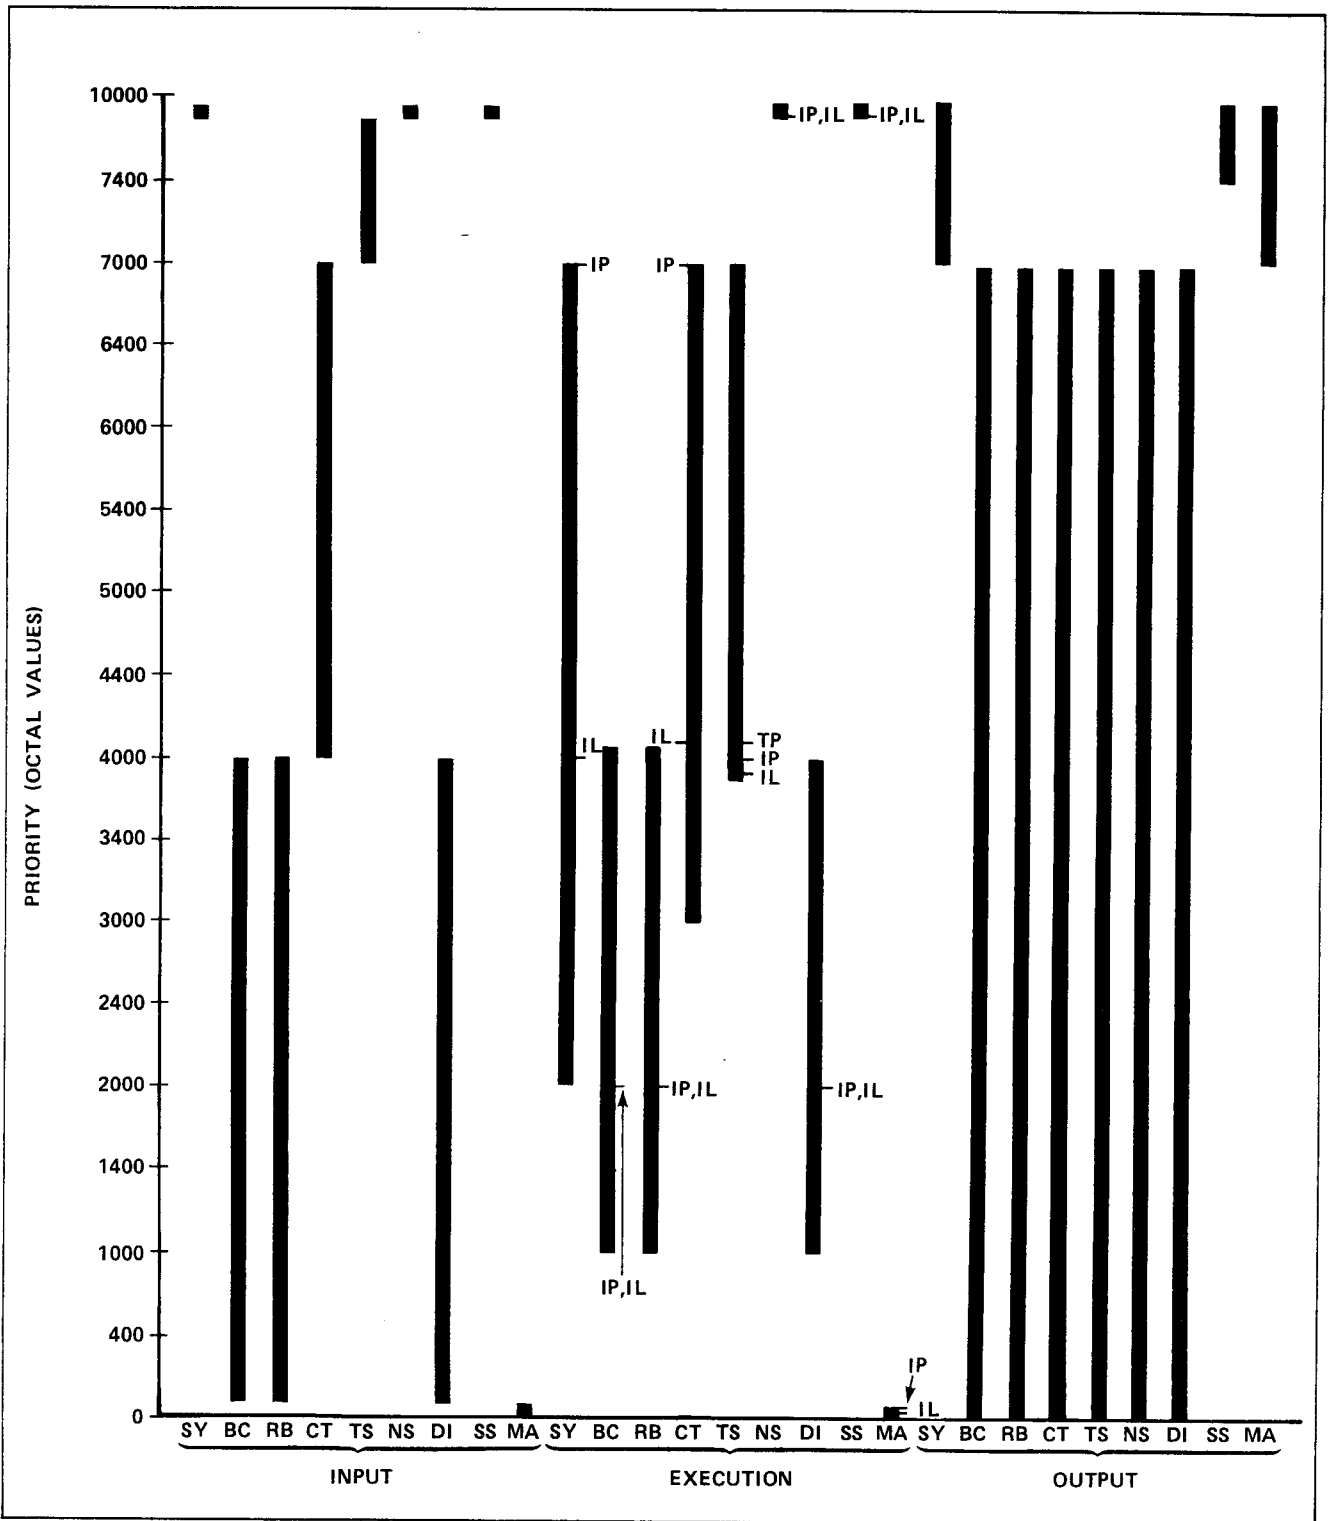

Figure 9-1. Example of Ranges of Service Class Priorities
For the interactive service class, there is an additional execution queue priority, TP (a parameter on the SERVICE entry). It is assigned to the execution queue entry of a job restarting after terminal I/O. The value of TP aids response time to program prompts. Also, for the interactive service class, the initial priority (IP) has an added significance. In addition to being the priority at which jobs are scheduled from the input queue to the execution queue, IP is the priority assigned to each newly initiated interactive job step. Using separate TP and IP parameters allows the system to give faster responses to users interacting with a job. To achieve this, a value for the TP parameter slightly greater than the value for the IP parameter is recommended (refer to table 9-1 and figure 9-1).
The relative values of the QUEUE and SERVICE parameters, both among service classes and within a service class, affect system performance. For an example of ranges of service class priorities, refer to figure 9-1. For an example set of specific entries for the QUEUE and IPRDECK parameters, refer to table 9-1.
An example set of entries for the job control parameters is shown in table 9-1. These entries fall within the example of ranges of service class priorities shown in figure 9-1. Neither the specific entries nor the ranges are recommended; they are strictly examples to aid you in selecting QUEUE and SERVICE entry parameters.